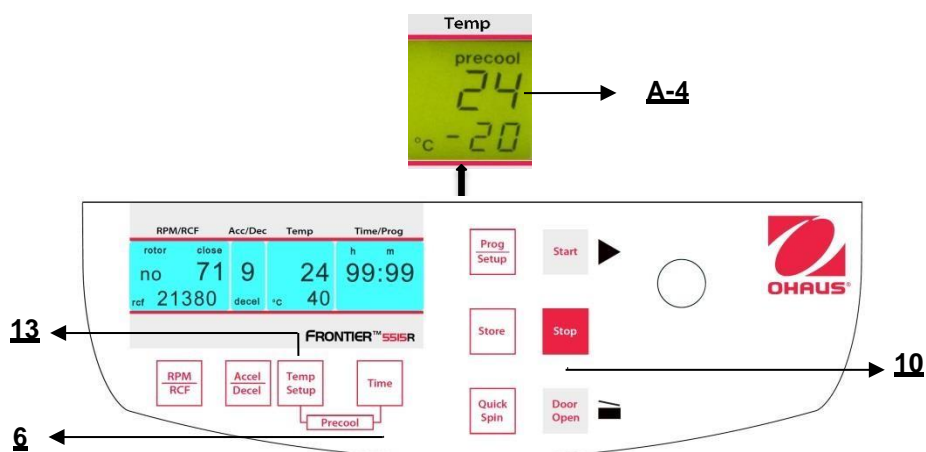

Figure. 20
If the samples are temperature-sensitive it is useful to pre-cool the centrifuge, the rotor and eventually the buckets to the required working temperature. Therefore, insert the desired rotor and pre-set the respective temperature. By simultaneous pressing the keys "**Temp/Setup**" (13) (refer to figure 20) and "**Time**" (6) you start the run. While running, the unit chooses automatically a rotational speed that is equivalent to 20 % of the permitted rotational speed of the respective rotor. After the pre-set temperature is reached you can leave the pre-cooling run with the "**Stop**" key (10).